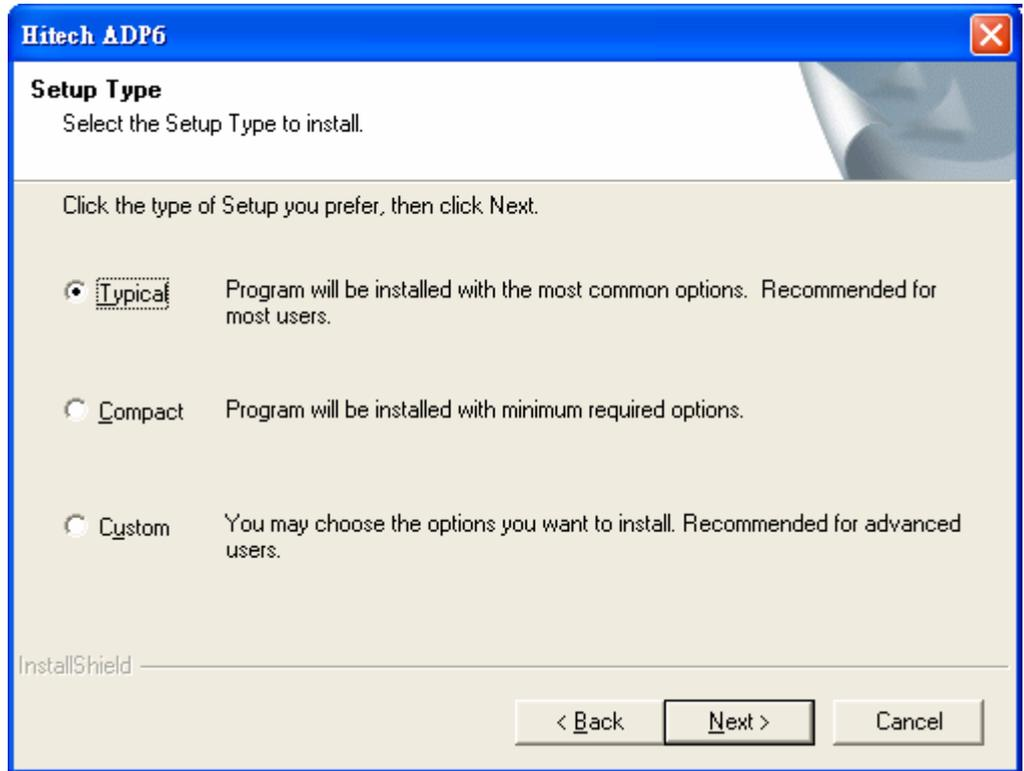

Figure 4. Select the type of setup
5. Click [Next] to select the type of setup. See Figure 4. “Typical” is recommended for the most users. “Compact” is the program with basic options. “Custom” is the program which users can individually select the options to install and this is recommended for advanced users.